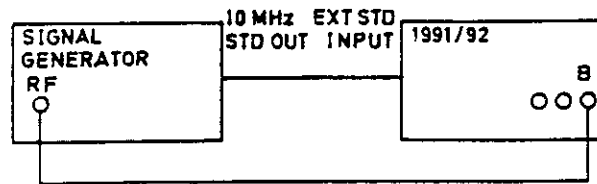

Figure 6.29 - Connections for Channel B Sensitivity PVP (I)
6.9.3.2 Channel B PVP (I)
- b. Connect the test equipment as shown in Figure 6.29. Check that the EXT STD LED lights